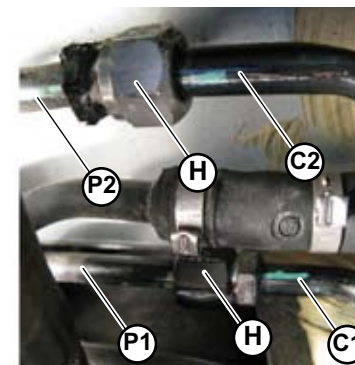

Fig.20
6. To disconnect the **C1** central delivery pipe connections and the **C2** central return pipe connections from the **P1** rear delivery pipes and **P2** rear return pipes, unscrew the respective nuts (**H-Fig.20**).